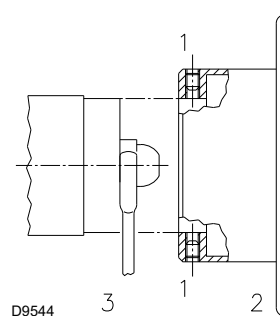

Fig. 21
- fix it with the spanner through the central hole of the flame stability disk or loosen the screws 1)(Fig. 21);
- remove the disk 2) and replace the nozzle with the spanner 3)(Fig. 21).